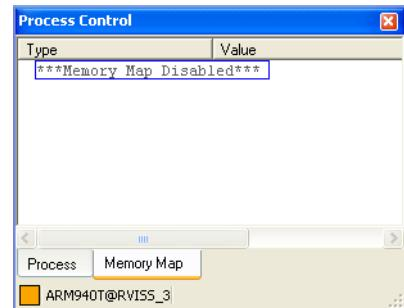

Figure 9-1 Disabled memory map
2. Select **Memory Map Tab** from the **View** menu to display the Process Control view and bring the **Memory Map** tab to the front. Figure 9-1 shows an example: